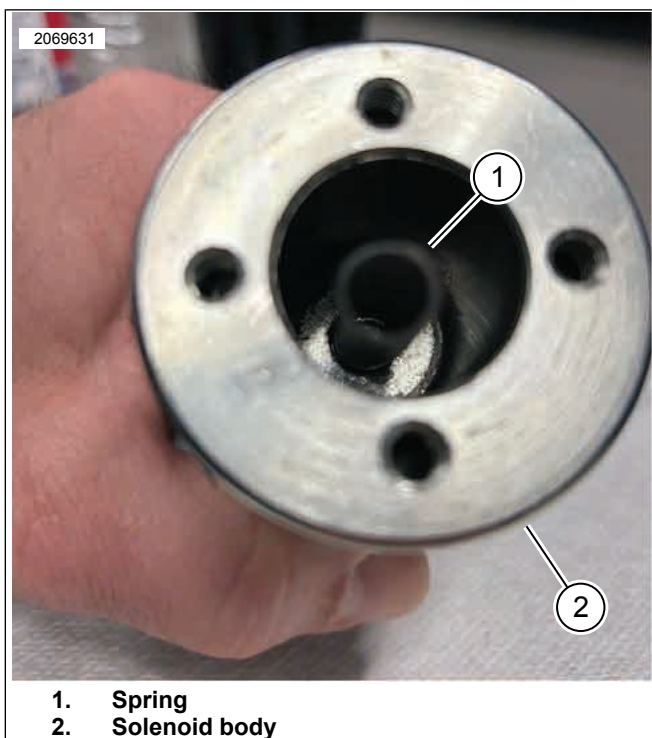

Figure 40. Install Spring
- a. See Figure 40. Install spring (1) into solenoid body (2).